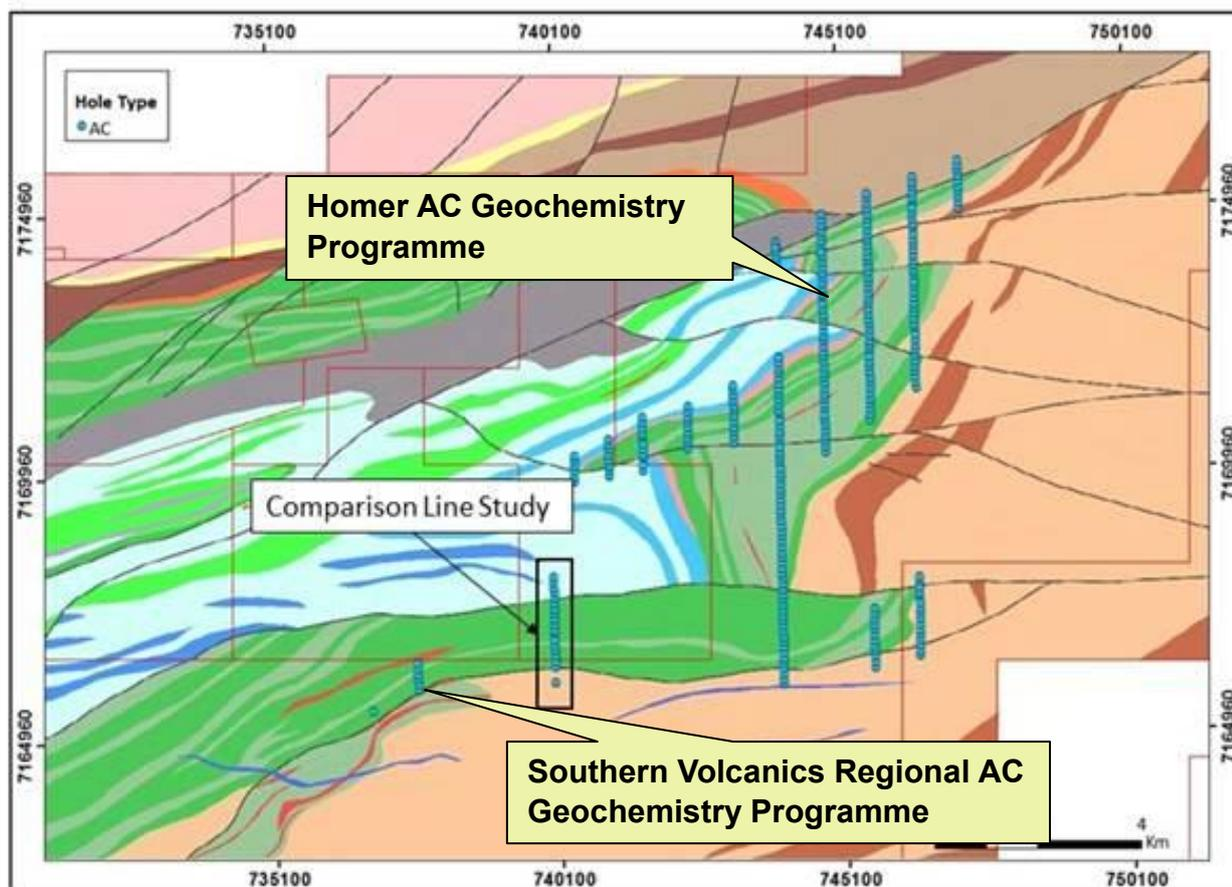

Figure 5: Springfield Project interpreted geology showing completed regional Aircore drills completed during the quarter.
During the March Quarter, exploration continued at the Springfield Prospect with Sandfire undertaking a total of 321 Aircore drill holes (AC) for an aggregate advance of 28,747 metres. (see **Figure 5**). The AC drilling undertaken was primarily focused during the quarter over the interpreted fold hinge south of the Red Bore East/Homer prospect areas with drilling continuing east from the Southern Volcanics Package towards the end of the quarter.
Sandfire also drilled 21 new AC holes in close proximity to historical Talisman AC drill holes (see **Figure 5**) in order for Sandfire to assess the compatibility of historical AC and RAB drilling conducted in the Springfield Project area. Sandfire intends to use this data to undertake a direct comparison between historical geological logging, drill-hole depths and assay results to determine how to proceed with the historical dataset. The results from this study are currently under review by Sandfire.